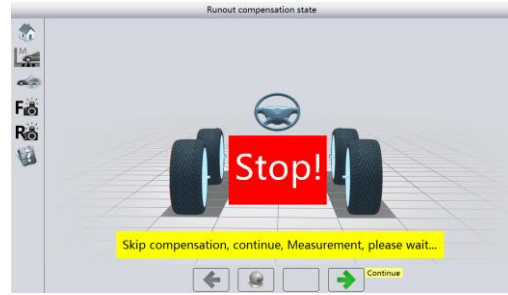

Fig.20
1. User must compensate the platform before measurement. After the compensation, if platform has no changes, for any future measurement of any car, no more compensation is needed. User can skip the compensation process as shown in Fig.20. Platform is compensated in the following way: